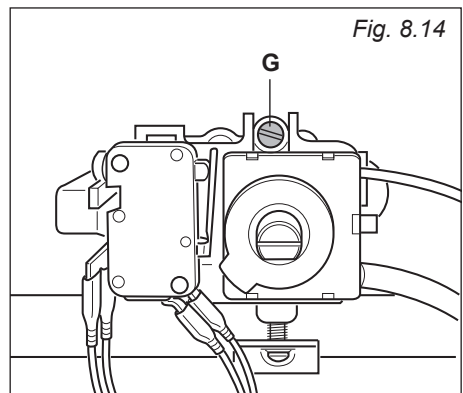

Fig. 8.14
- remove the knob and unscrew the by-pass screw "G" (fig. 8.14) about three times by passing a small flat screwdriver (Ø 3 mm blade, 100 mm length) through the panel opening;
- after having removed the knob again and being very careful not to turn the tap rod, slowly screw the by-pass screw "G" (fig. 8.14) until you obtain a flame of 3-4 mm in height.